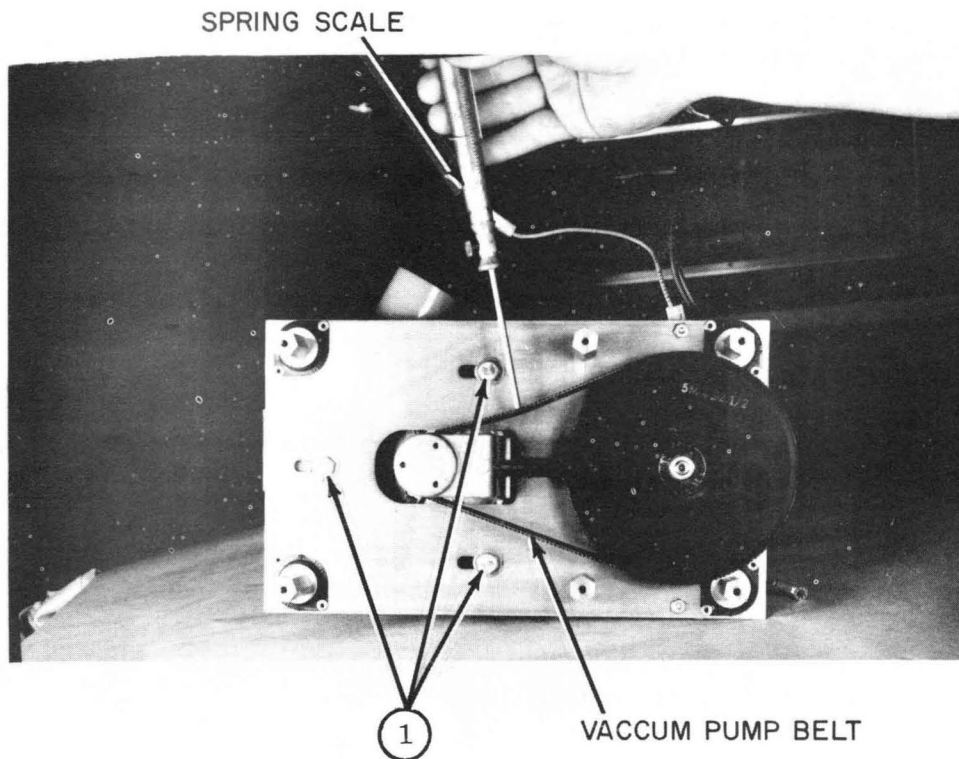

Figure 9-13. Vacuum Pump Belt Adjustment
- e. LOOSEN three hex vacuum pump mounting bolts ①, figure 9-13.